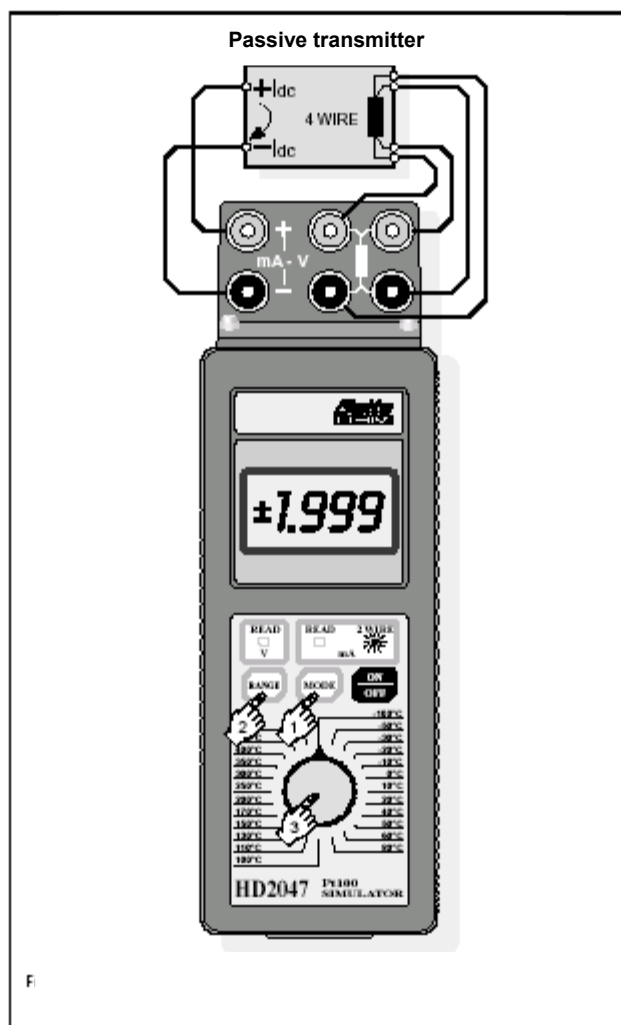

Fig. 3 . Verification of a passive transmitter with Pt100 input
Operating mode (see fig.3):
- connect the 4...20mA loop wires to the left sockets, as shown in fig. 3, without changing the correct polarity; the current supplied by HD 2047 is delivered through the positive (+) socket;
- make the connection as shown in fig. 3, 4 o 5, depending on the number of wires;